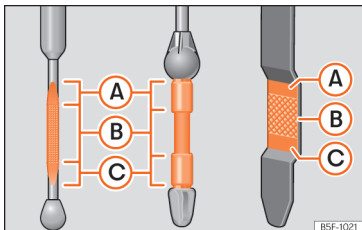

Fig. 282 Engine oil dipstick.
If the oil level is above area »» Fig. 282 (A), do not start the engine. This could result in damage to the engine and catalytic converter. Contact a Technical Service.
If the oil level is above area »» Fig. 282 (A), do not start the engine. This could result in damage to the engine and catalytic converter. Contact a specialised workshop.
The oil level must never be above zone »» Fig. 282 (A). Otherwise oil can be drawn in through the crankcase breather and leak into the atmosphere via the exhaust system.